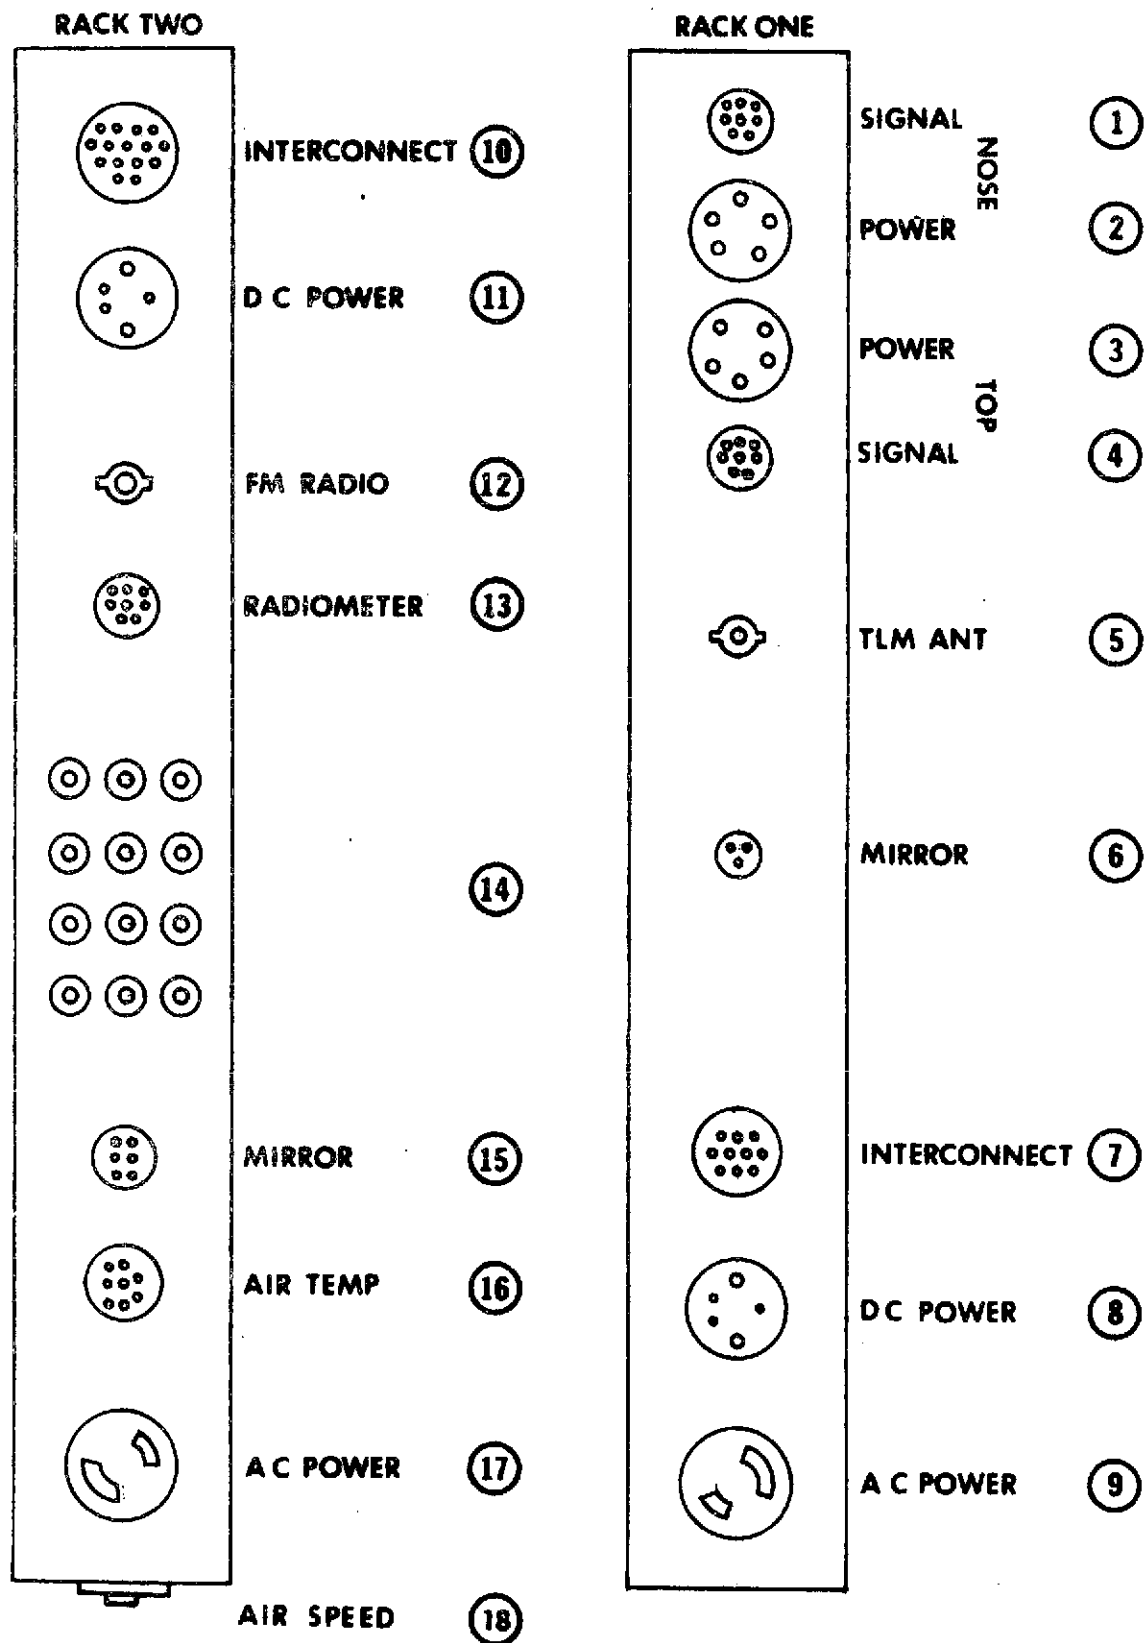

Figure 2-13. System Interconnect Bulkheads
2.14 SYSTEM INTERCONNECT BULKHEADS (FIGURE 2-13)